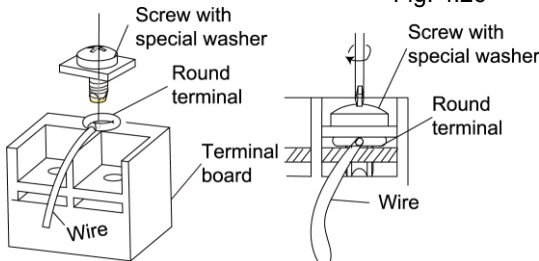

Fig. 4.27
- 4). Position the round terminal wire, and replace and tighten the terminal screw with a screwdriver.(Fig. 4.27)